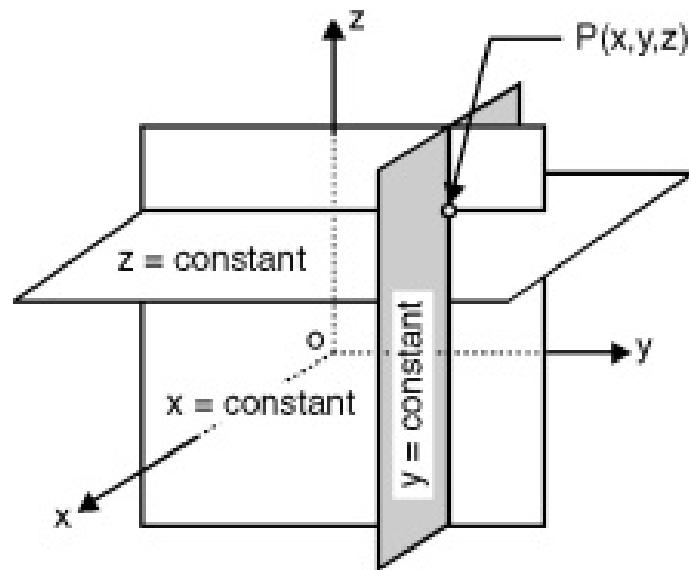

Fig. 6.1.2 : Point is defined by
- Consider, $x = \text{constant}$ and $y = \text{constant}$ planes. These two vertical planes intersect and the intersection is a vertical line. To obtain a point take the third plane, i.e. $z = \text{constant}$ plane i.e. horizontal plane. The vertical line and horizontal plane intersects and the intersection is a point [point P in Fig. 6.1.2].